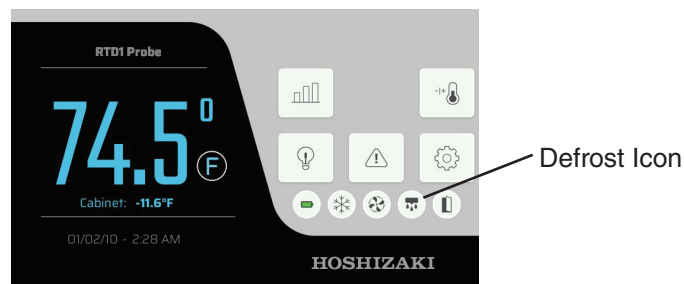

Fig. 19
4) Defrost engaged and defrost icon turns on. See Fig. 19.